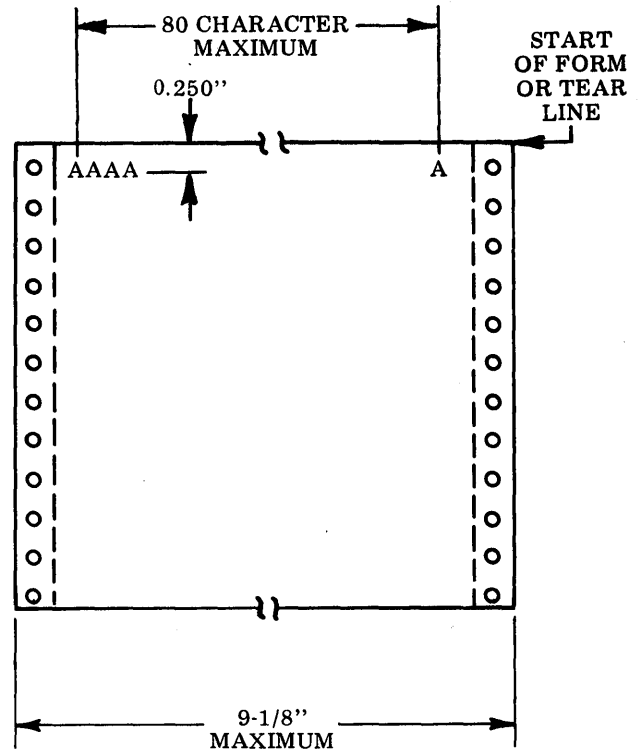

Fig. 61
(2) The distance from the tear line to the first printing centerline is 0.250 inch (Fig. 61).
(3) Printing in other lines is accomplished by inserting New Lines in the format.